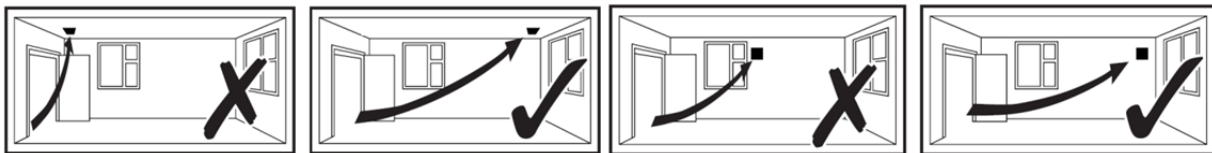

Fig.1: VASF100BO, VASF100PIRO, VASF100BVO
1. Select and follow the appropriate wiring diagram. (Fig. 1 or 2)
Fixed Speed Range – Fig1, 2, 3, 4, 5 & 6
Lo-Carbon Variable Speed Range – Fig1, 2, 3 & 7